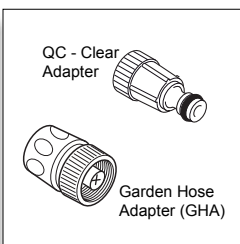

Fig. 9
- Install the garden hose adapter (GHA) and quick connect filter. It is made up of two separate pieces. (1) A clear plastic adapter with a screen filter (about 3 inches long) and (2) a blue/black collar attachment (Fig. 9).